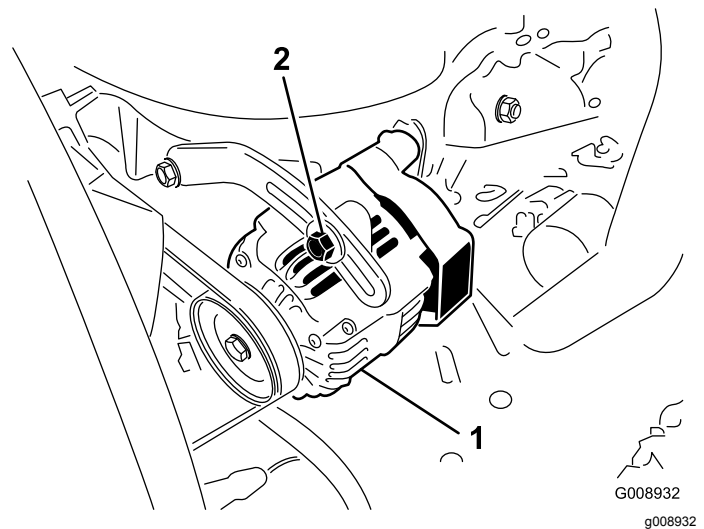

Figure 54
Check the condition and tension of the belts (Figure 54) after every 100 operating hours.
2. If the deflection is not 3/8 in. (10 mm), loosen the alternator mounting bolts (Figure 54). Increase or decrease the alternator belt tension and tighten the bolts. Check the deflection of the belt again to ensure that the tension is correct.